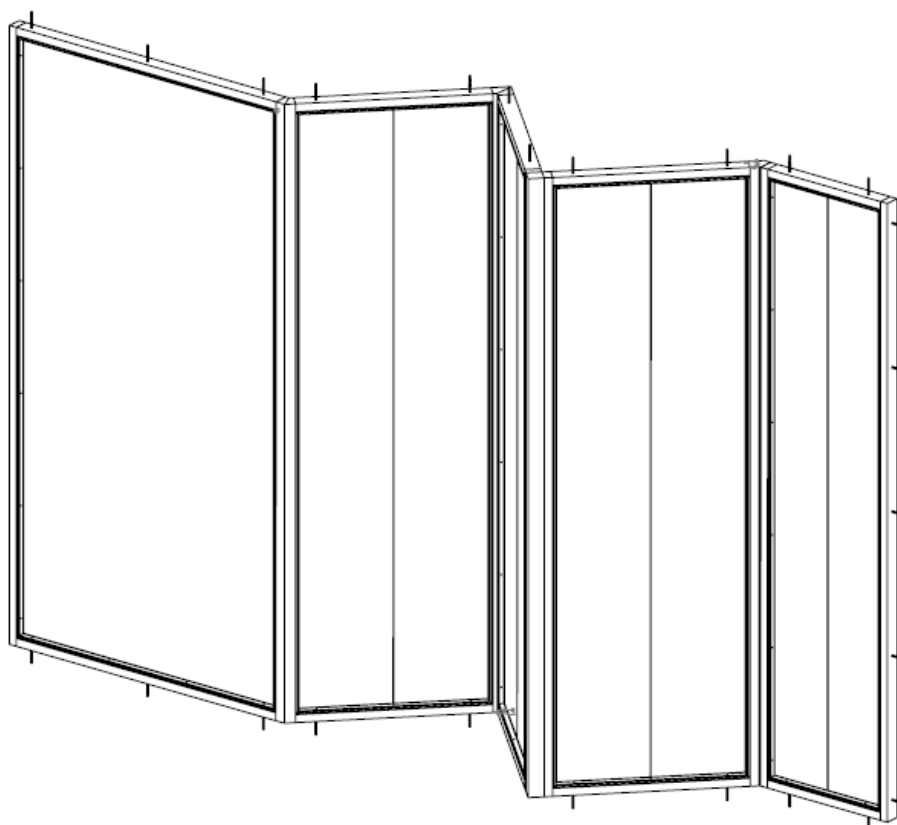

Figure 5: Butt-joint glazing with angles, designed with vertical mullions
- Butt-joint glazing with angles and a vertical mullion (Figure 5)